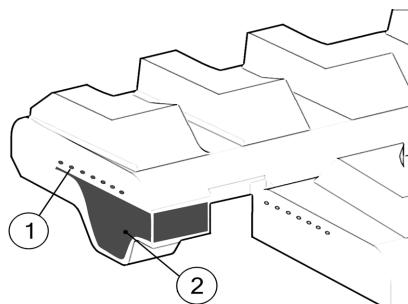

Figure 38 - Rubber Track Structure
The structure of the rubber track is shown in Figure 38. The steel cables (1) and metal core (2) are embedded in the rubber.